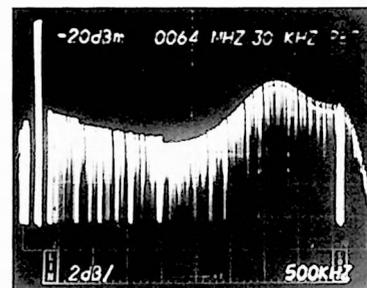
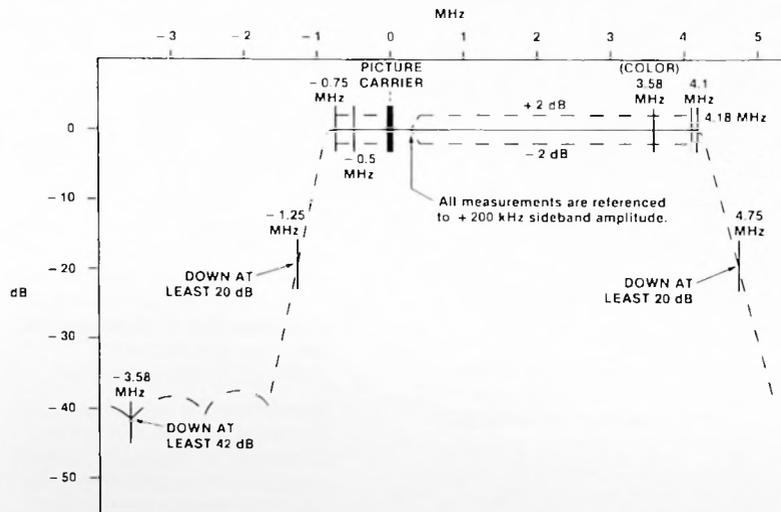

Figure 6-6. 2 dB/DIV swept modulator response.
Figure 6-5. Idealized NTSC color transmitter response.
5. Check the modulator's response with respect to figure 6-5.
sweep the generator's frequency again. Verify this response (figure 6-6) with respect to figure 6-5.
8. On the 1405, turn on the 1.25, 3.58 and 4.75 MHz markers. Adjust the INTENSITY and WIDTH controls for pleasing markers. Verify that the lower 3.58 MHz sideband and channel edge amplitudes are within specified limits (figure 6-5).